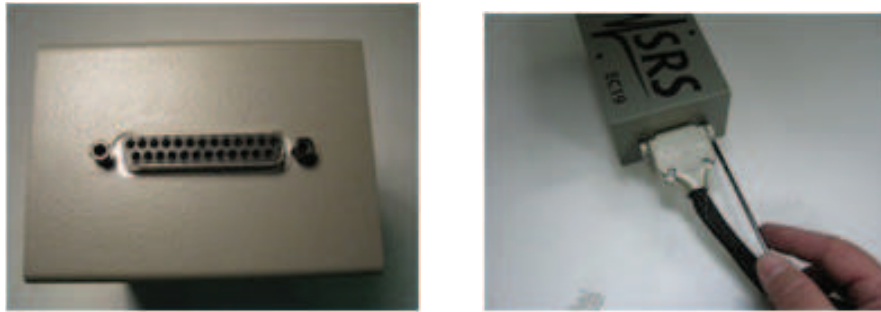

Figure 4: EC19 rear panel connector. Securing the umbilical cable.
1. Identify the connection points on the EC19. There are two jack screws on the rear panel of the unit, shown in Fig. 4.
2. Screw the umbilical cable screws into the jack screws of the EC19 as shown in Fig. 4.